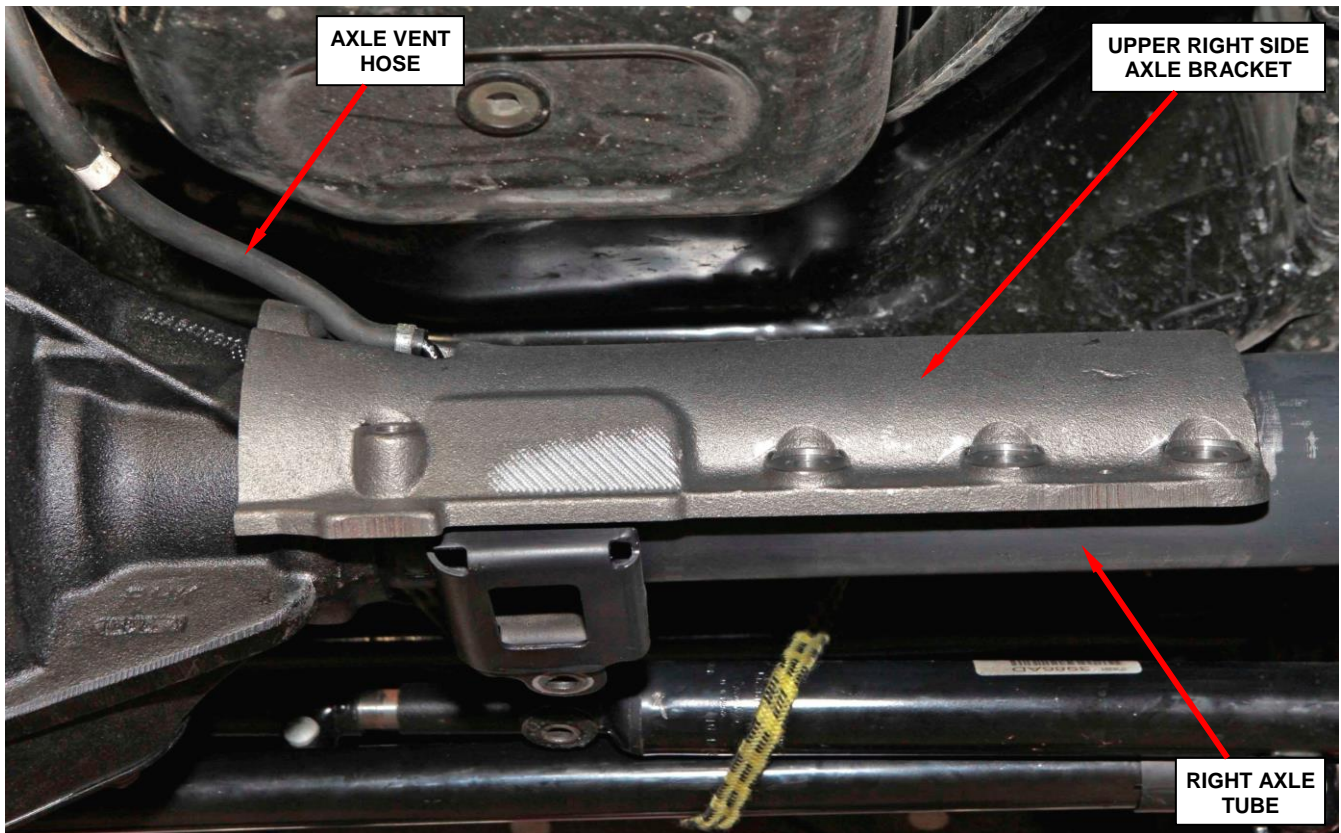

Figure 9 – Install Upper Right Side Axle Bracket
- c. Place the upper half of the bracket onto the right axle tube (Figure 9). Then install the axle vent hose onto the axle fitting to temporarily hold the bracket in place.